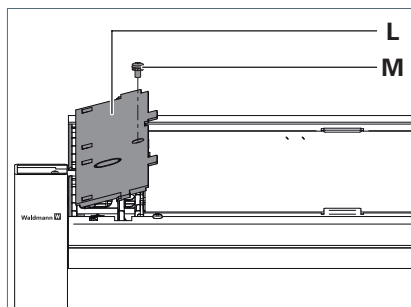

Fig. 7: Mounting the cover.
- Insert the cover **L** with the hooks on the bottom side of the cover into the eyelets on the luminaire head and press the cover firmly, see Fig. 7.